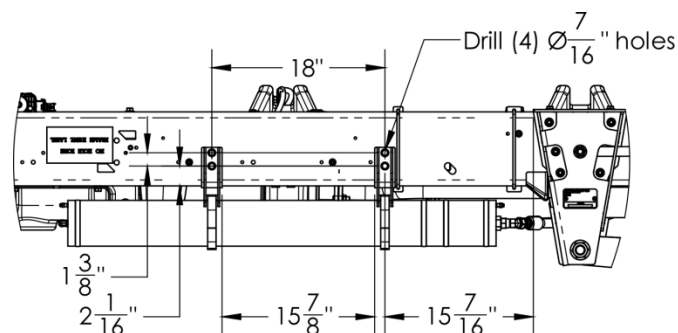

Figure 21. Volume suggested mount locations
2. Place the mounts against the driver side frame, forward of the front hanger. Figure 21 shows suggested locations. The mounts can be relocated based on frame mounts, etc.